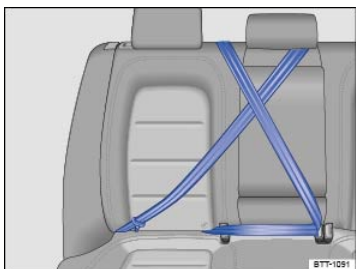

Fig. 74 Keep unused safety belts away from children in child restraints.
You must take special precautions when installing a LATCH/UCRA child restraint behind the front passenger or driver seats. Always route the center safety belt and the unused safety belt for the seating position where the child restraint is being installed securely out of the child's reach. Securing the safety belts will help prevent a child from playing with an unused safety belt and becoming entangled with it → Fig. 74
- Buckle the safety belt → Fig. 74.